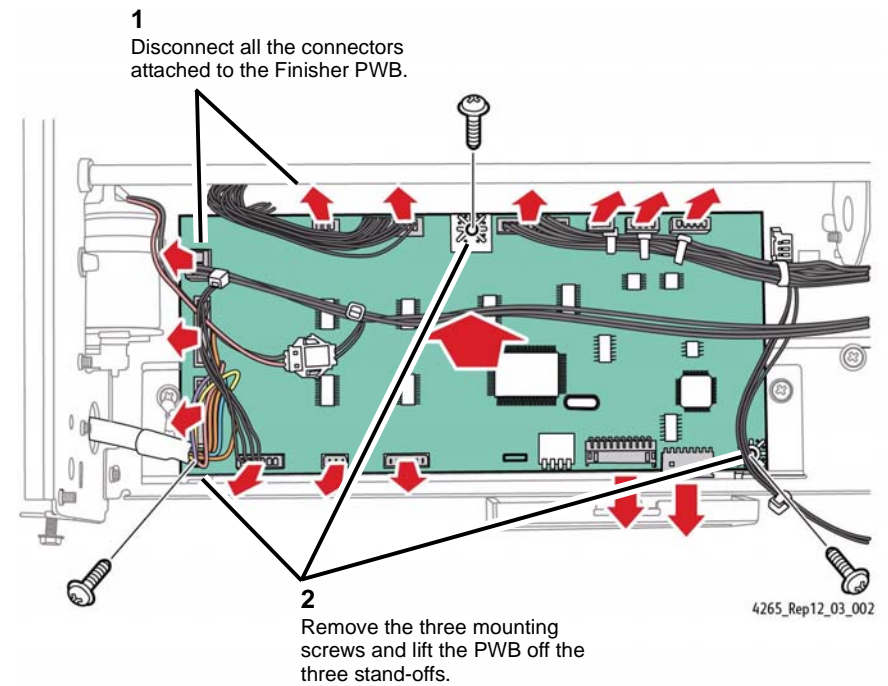

Figure 2 Removing the Finisher PWB
6. Remove the Finisher PWB (Figure 2).